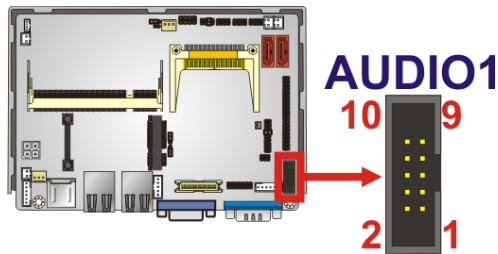

Figure 3-3: Audio Connector Pinouts (10-pin)
- CN Location:** See **Figure 3-3**